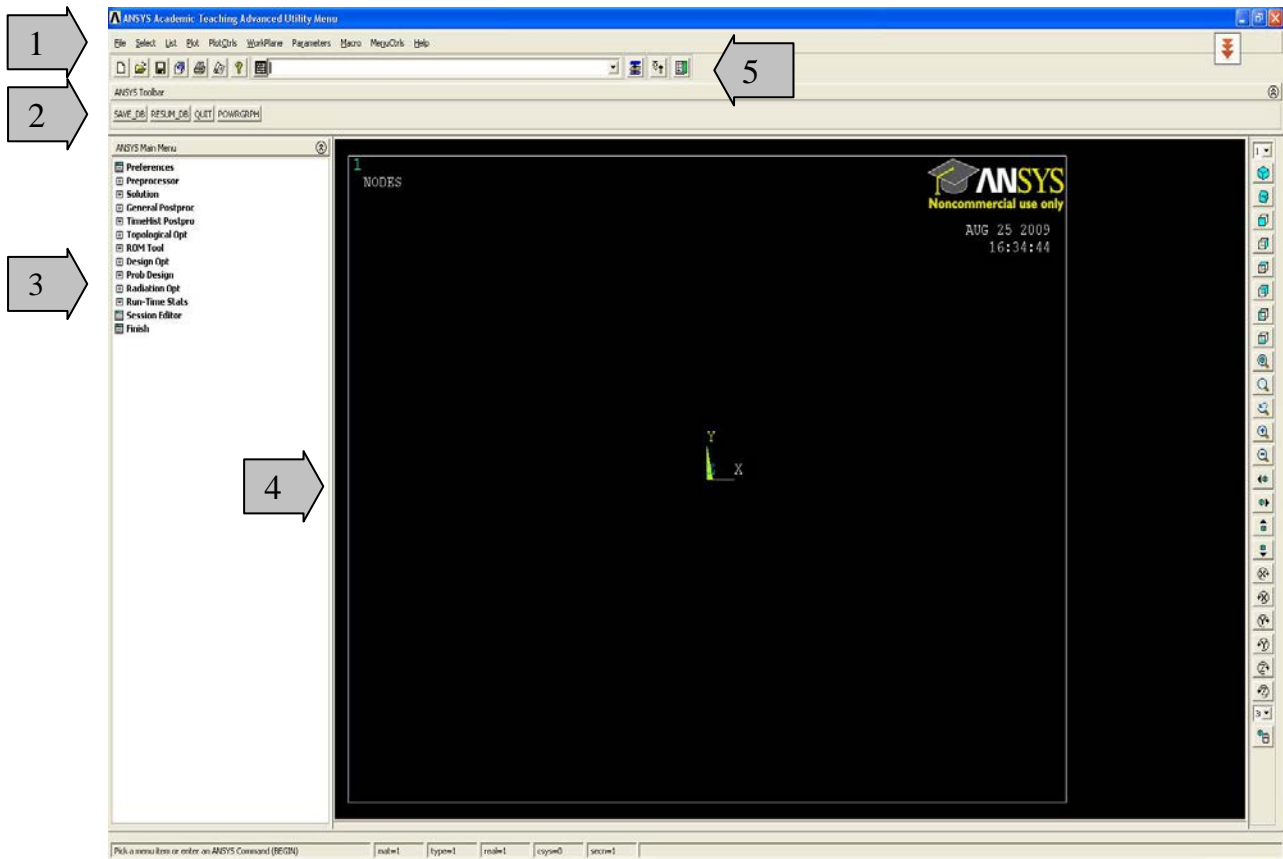

Figure 1: The ANSYS Graphical User Interface (GUI).
Treatment of engineering problems generally contains three main parts: create a model, solve the problem, analyze the results. ANSYS, like many other FE-programs, is also divided into three main parts (processors) which are called *preprocessor*, *solution processor*, *postprocessor*. Other software may contain only the preprocessing part or only the postprocessing part. During the analysis you will communicate with ANSYS via a Graphical User Interface (GUI), which is described below and seen in Figure 1.
One has to make sure, that ANSYS is using a proper system of units. The International system (SI) is not necessary set by default. In order to set the system of units to SI, one has to type in the Input window (cf. Figure 1): **/UNITS,SI**